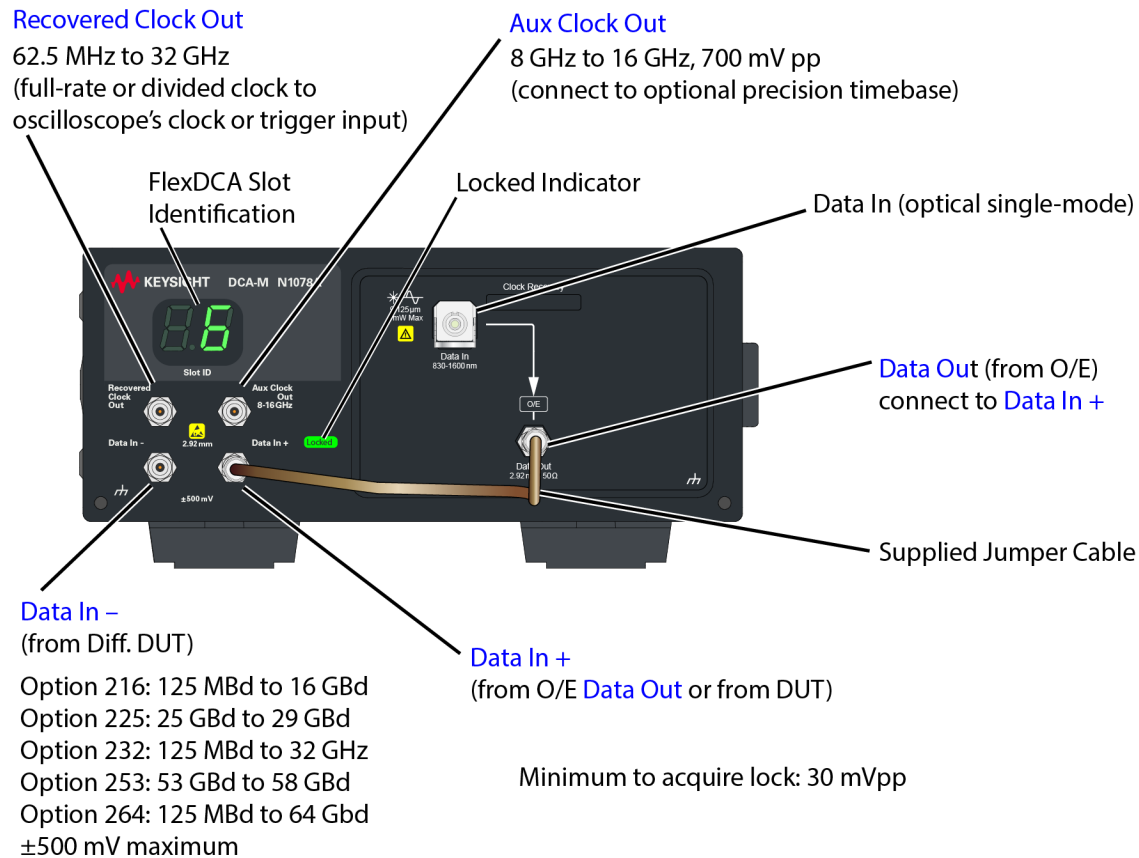
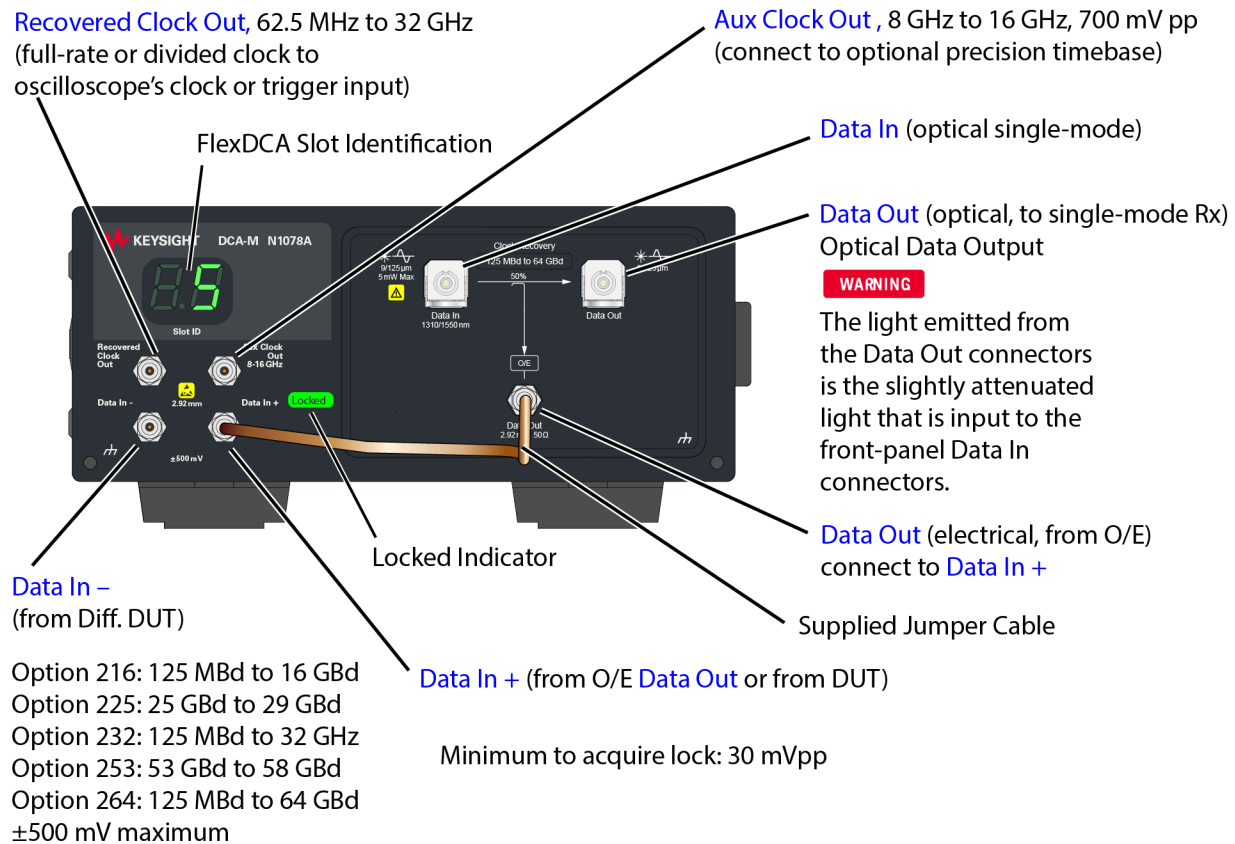

Figure 57. N1078A-SXT Front-Panel Connectors
Figure 58. N1078A- S50 Front-Panel Connectors
*Figure 57 on page 108* and *Figure 58 on page 109* show the N1078A-SXT and N1078A-S50 module front-panels. Both model options have single-mode optical connectors. Option SXT modules do not have an internal optical splitter. Option S50 models include an internal optical splitter (50%). The optical internal splitter provides a slightly attenuated input signal at the optical **Data Out** connectors. This output can be used for input to a receiver module or other test equipment.
1. Confirm that the input signal meets the baud rate and amplitude requirements shown in *Figure 58 on page 109*. In this procedure, the following assumptions are made for simplicity. You can change these parameters to any acceptable values.